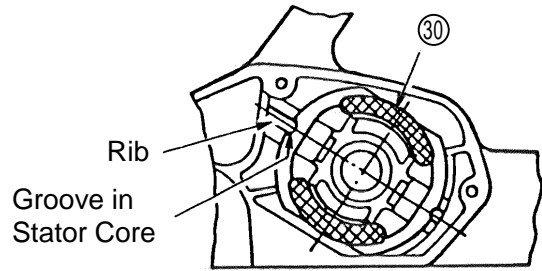

Fig. 12
- (1) The fitting of the Housing (9) and the Stator (30) is such that the Stator can be installed without the necessity of heating the Housing. As the Stator is not fixed into the housing by screws, carefully ensure that the ribs in the Housing (9) are properly aligned with and fitted into the matching grooves on the Stator (30) as illustrated in Fig. 12, and that the Stator is fully installed so that it comes in contact with the inner wall of the Housing.